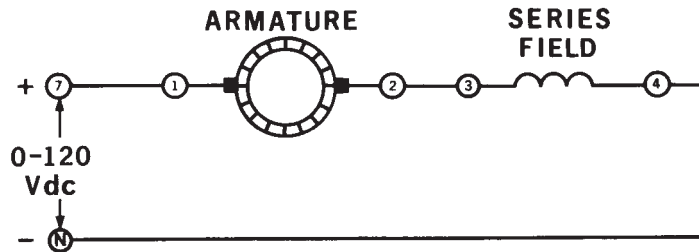
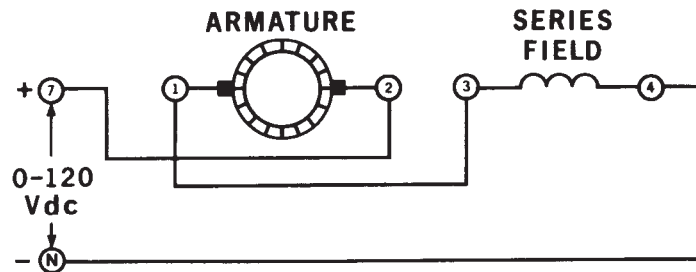

Figure 3-2.
Figure 3-3.
- 5. Using your Power Supply, DC Voltmeter/Ammeter and DC Motor/Generator, connect the circuit shown in Figure 3-2. Notice that the armature is connected in series with the series field winding, across the input voltage.
9. Reconnect your circuit as shown in Figure 3-3. (The only change made to the circuit of Figure 3-2 is that the connections to the armature have been reversed).
10. Repeat procedures 6 through 8 (using the reversed armature connections shown in Figure 3-3).